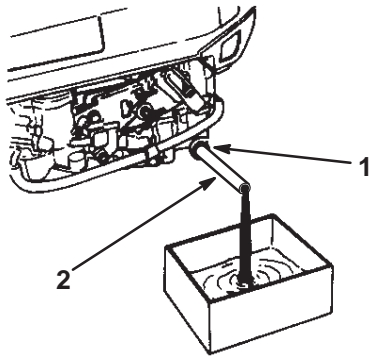

Figure 19
4. Raise the left side of the mower at least 12 inches and open the side oil drain plug (Fig. 19).
5. Insert the oil drain tube over the drain plug and lower mower (Fig. 19).